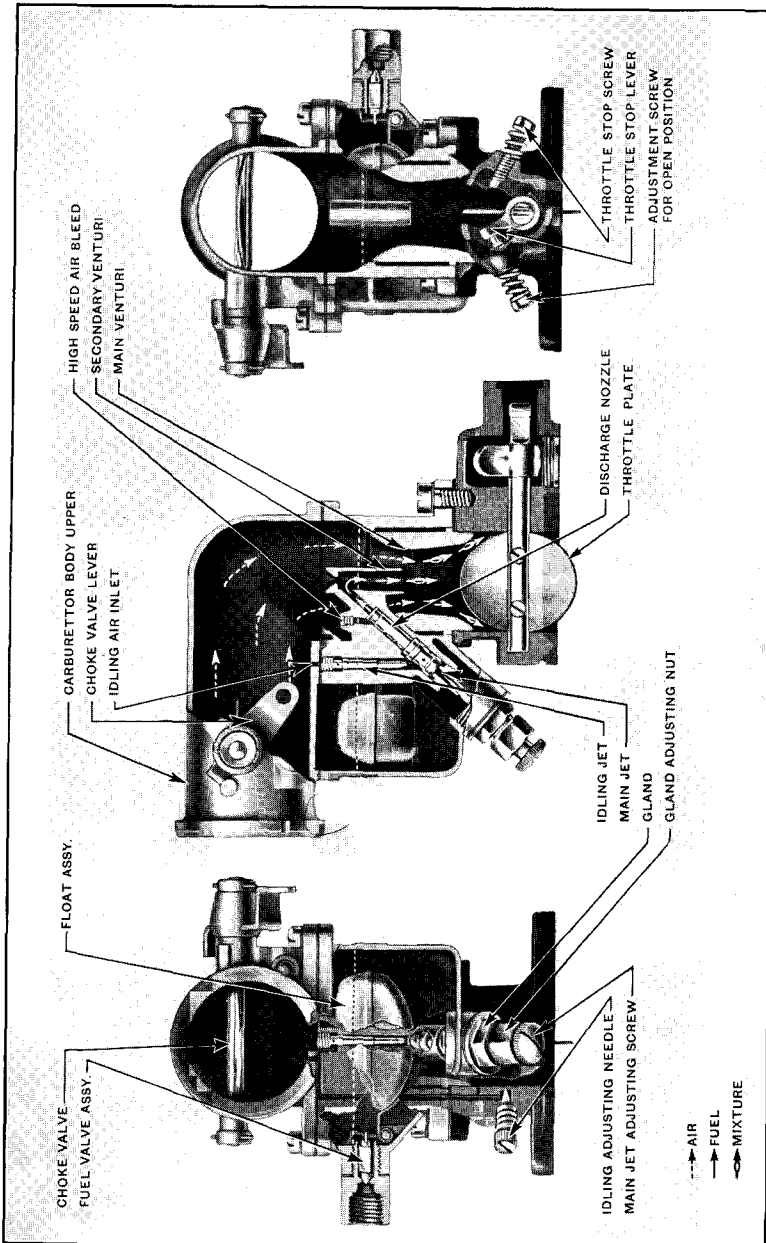

Figure 31
**Slow-Running Adjustment.**—The only adjustments required are to the idling adjusting needle and to the throttle stop screw (see Fig. 31). An approximate setting for the idling adjusting needle would be  $\frac{1}{2}$  to 1 turn open from the fully closed position.
**Throttle Stop Screw**—Screwed in about 1 to  $1\frac{1}{2}$  turns after the screw just touches the throttle stop. (See Fig. 31.)